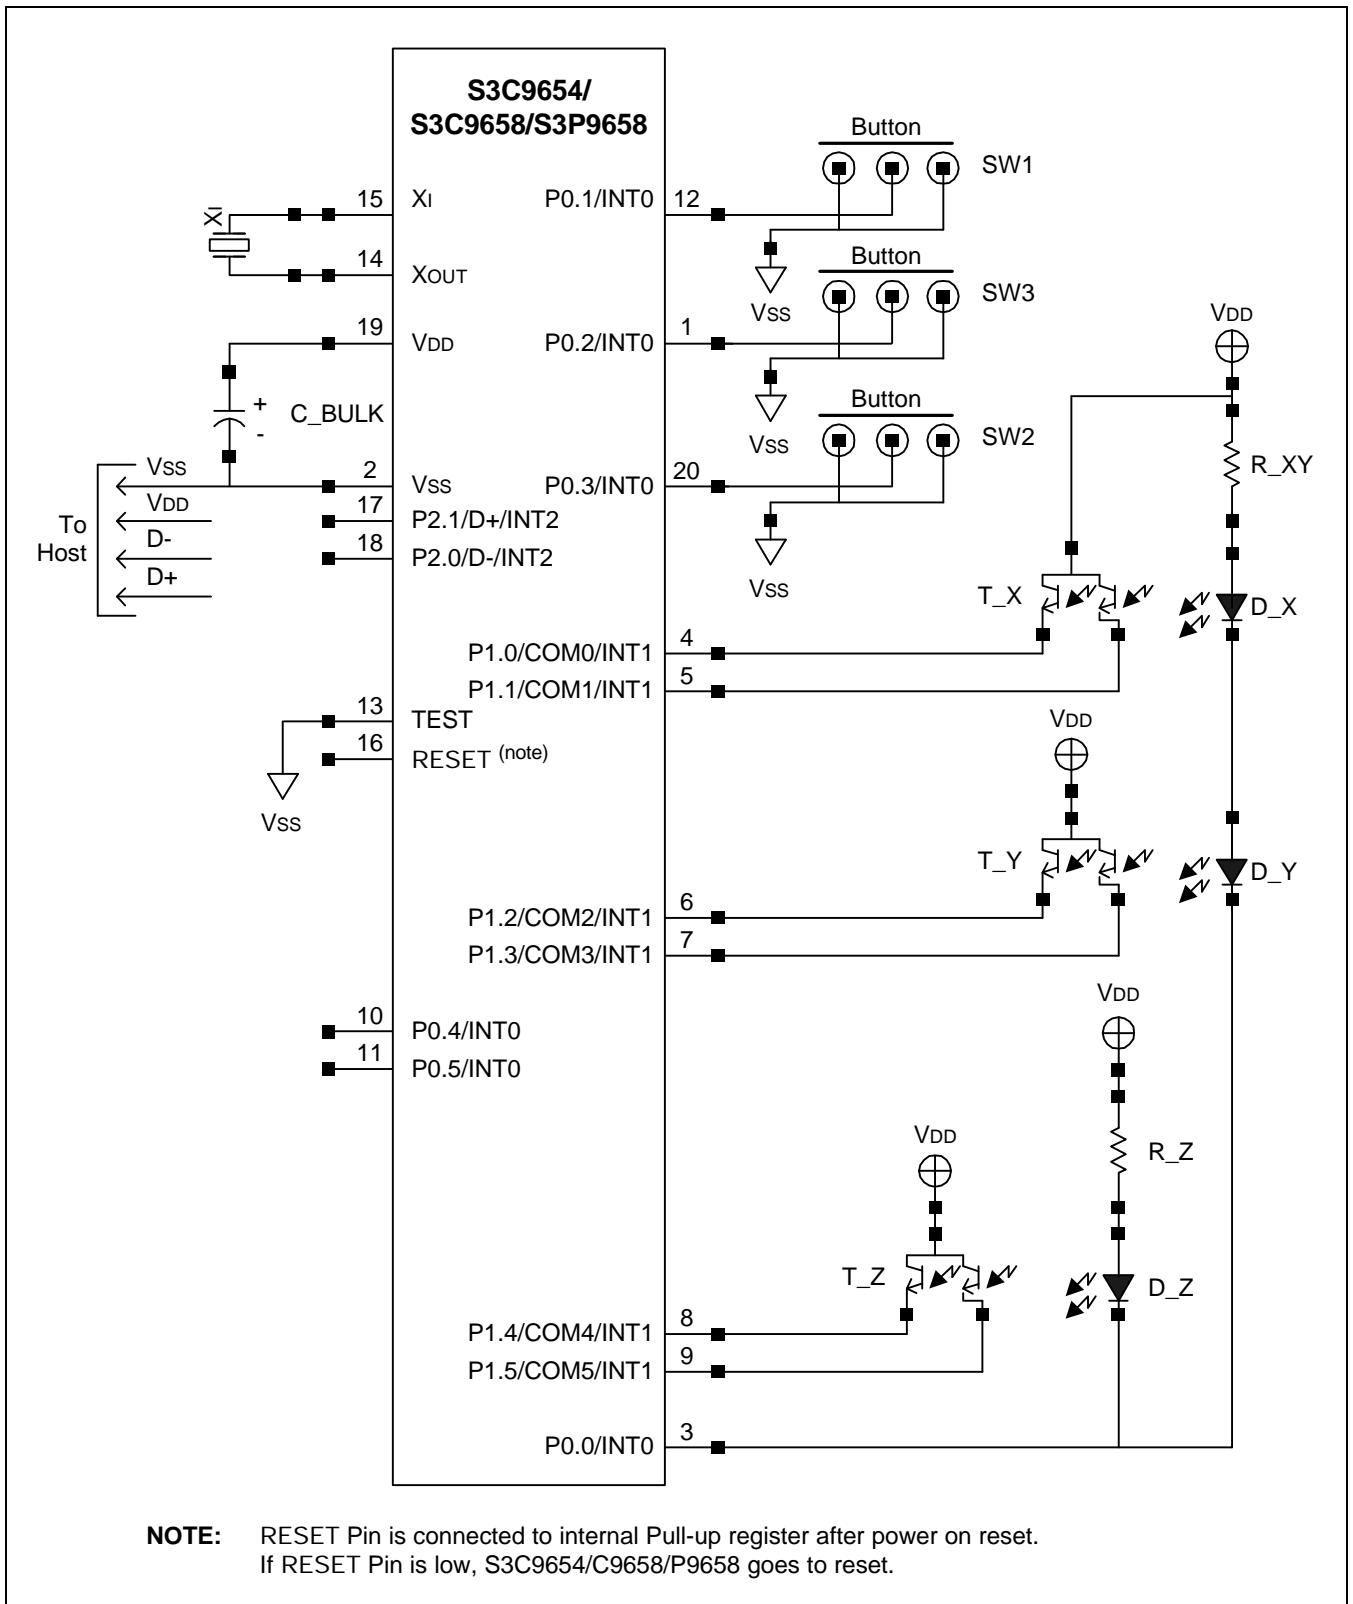

Figure 1-9. USB Mouse Circuit Diagram
- P0.0 designed for direct LED current sink, see the SNKCON resistor and Figure 1-9 (Page 1-9).